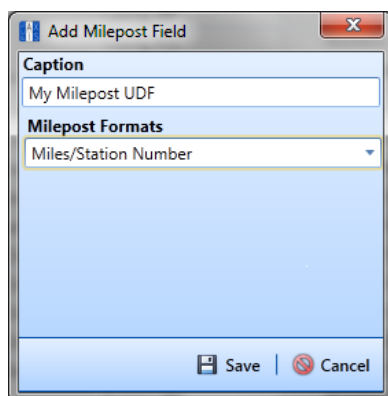

Figure 2-31. Add Milepost Field
- 4 Click  **Milepost** in the toolbar to open the *Add Milepost Field* dialog box (Figure 2-31).